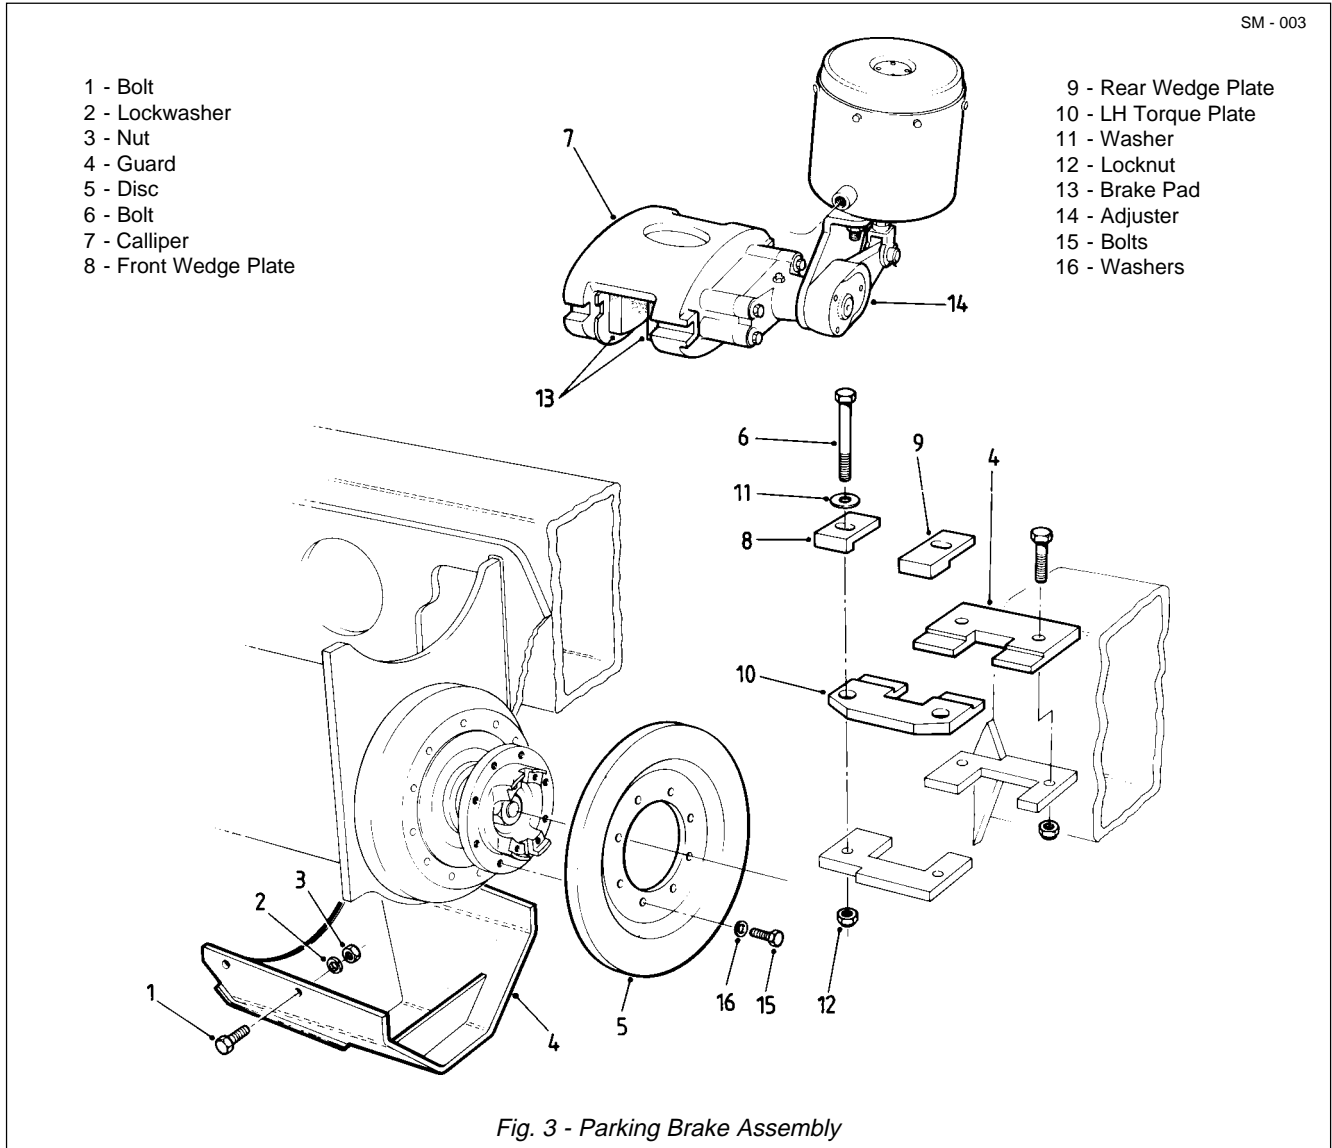

Fig. 3 - Parking Brake Assembly
6. Remove bolts (1, Fig. 3), lockwashers (2, Fig. 3), nuts (3, Fig. 3) and protective guard (4, Fig. 3), if fitted, from beneath rear of pivot housing.
7. Slacken adjuster (14, Fig. 3) until brake pads (13, Fig. 3) are sufficiently clear of parking brake disc (5, Fig. 3) to permit removal of calliper (7, Fig. 3).
8. Note positions of front and rear wedge plates (8 & 9, Fig. 3) to aid in 'Installation'. Remove bolts (6, Fig. 3), washers (11, Fig. 3), nuts (12, Fig. 3), front and rear wedge plates (8 & 9, Fig. 3) and left hand torque plate (10, Fig. 3).
9. Move and secure calliper (7, Fig. 3) clear of parking brake disc (5, Fig. 3).
27. Position parking brake calliper (7, Fig. 3) in position and install left hand torque plate (10, Fig. 3), front and rear wedge plates (8 & 9, Fig. 3) and secure in place with bolts (6, Fig. 3), washers (11, Fig. 3) and locknuts (12, Fig. 3).
29. Position guard (4, Fig. 3), if fitted, and secure to frame using bolts (1, Fig. 3), lockwashers (2, Fig. 3) and nuts (3, Fig. 3).